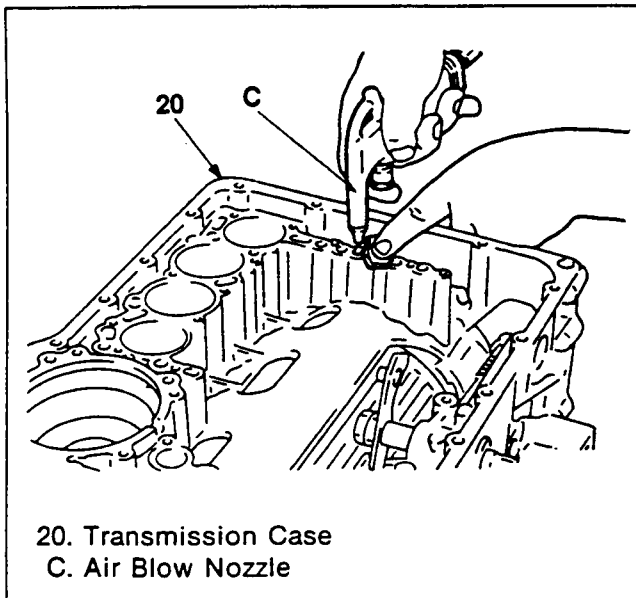

Figure 160. Overrun Clutch Operation Check
4. Check the operation of the overrun clutch by blowing 294 – 392 kPa (42 – 56 psi) air into the oil hole (figure 160).